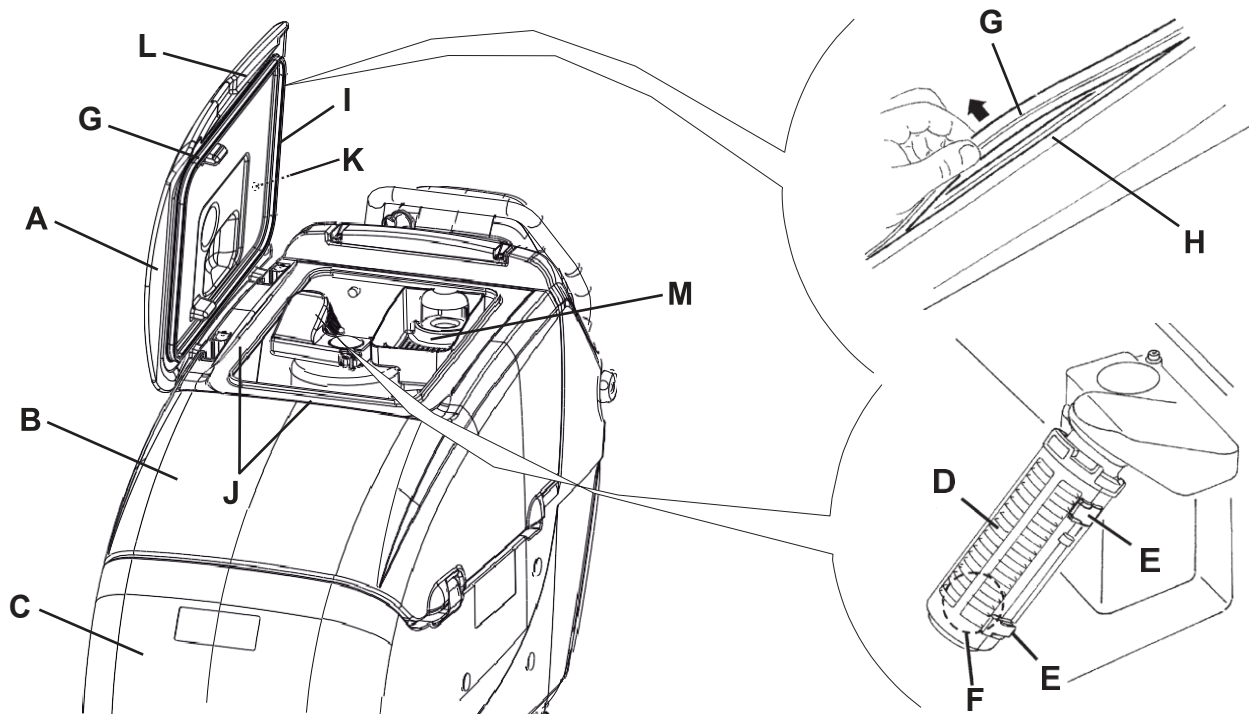

Figure 12
2. Turn off the machine by pressing and holding the switch (66) for nearly a second.
3. Open the cover (A, Fig. 12).
5. Wash with clean water the cover (A), the tanks (B and C) and the vacuum grid with automatic shut-off float (D). If necessary, release the fasteners (E) and open the grid (D), recover the float (F), clean all the components and then reinstall them.
6. Remove and clean the debris tray (M).
7. Check the tank cover gasket (G) for integrity.